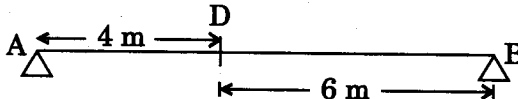

Figure 4
- (b) A live load of 50 kN/m, 8 m long moves on a simply supported girder of span 10 m. Find the maximum bending moment which can occur at a section, 4 m from the left end. (Figure 4)